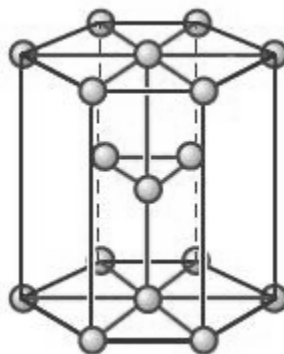

Fig 1.20
- (i) 12 corner atoms, one at each and every corner of the hexagon, as shown in Fig.1.20
- (ii) 2 base centered atom, one at the top face of the hexagon and another at the bottom face of the hexagon as shown in Fig.1.20.
- (iii) In addition to corner and base atoms, 3 atoms are situated in between the top and bottom face of hexagon, in alternate vertical faces. Also note that these atoms are situated inside the faces, so that they can't be shared by other unit cells, as shown in Fig.1.20